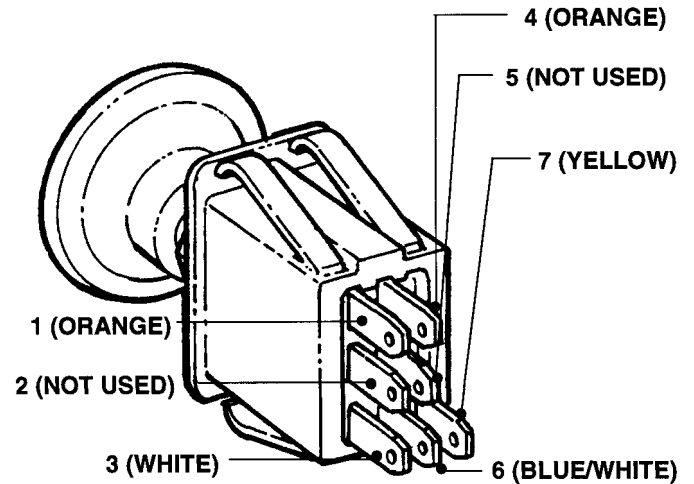

FIGURE 3.10
1. Disconnect Wire Connectors from the Switch Terminals. See Figure 3.10.